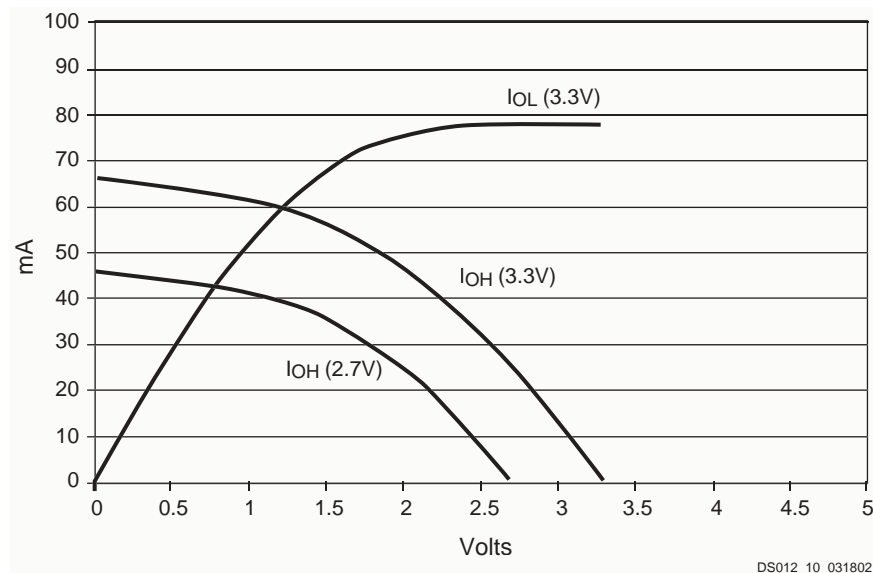

Figure 2: Typical I/V Curve for the XPLA3 Family. 25°C
2. See Figure 2 for output drive characteristics of the XPLA3 family.